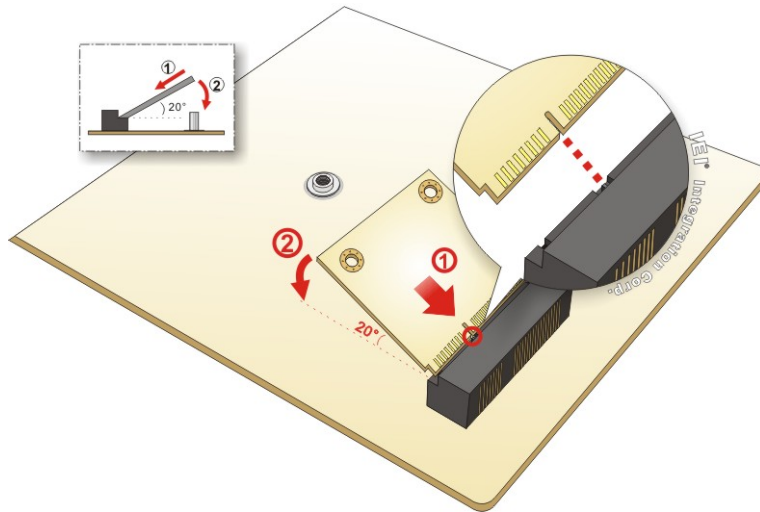

Figure 4-3: Inserting the Half-size PCIe Mini Card into the Slot at an Angle
Step 3: Insert into the socket at an angle. Line up the notch on the card with the notch on the slot. Slide the PCIe Mini card into the slot at an angle of about 20° (**Figure 4-3**).